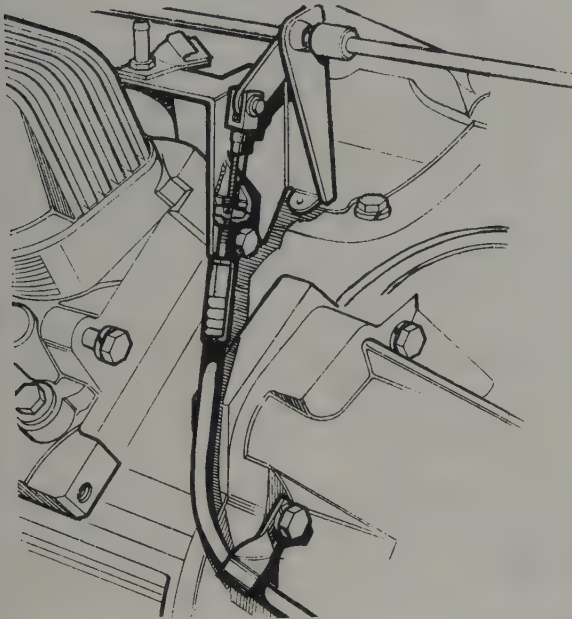

Fig. 1.8. Downshift cable connections (automatic transmission)
- 13 If automatic transmission is fitted, disconnect the downshift control cable from the left-hand carburettor (Fig. 1.8).